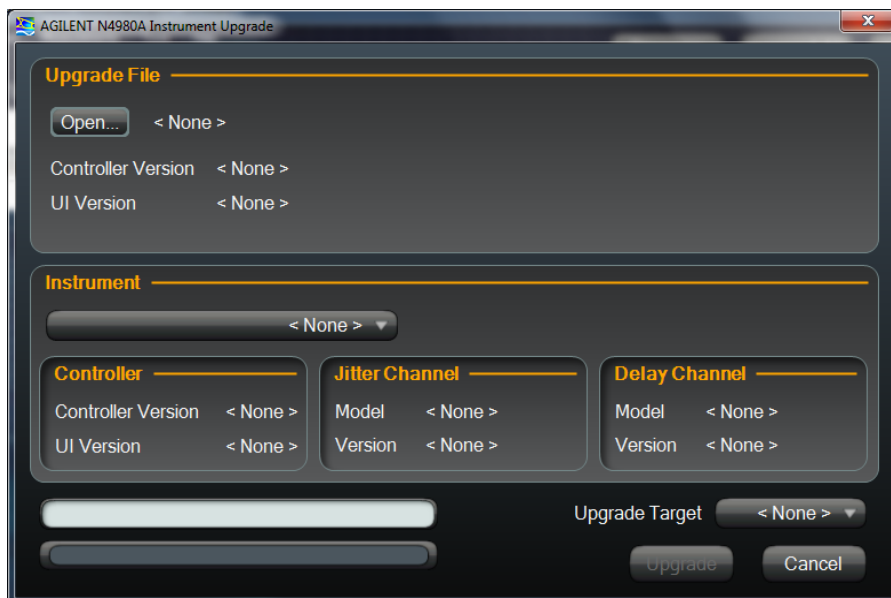

Figure 98. N4980A Instrument Upgrade screen
4. In the main menu click on the **Tools** menu then select **Instrument Upgrade**. The instrument upgrade screen appears as shown in Figure 98.